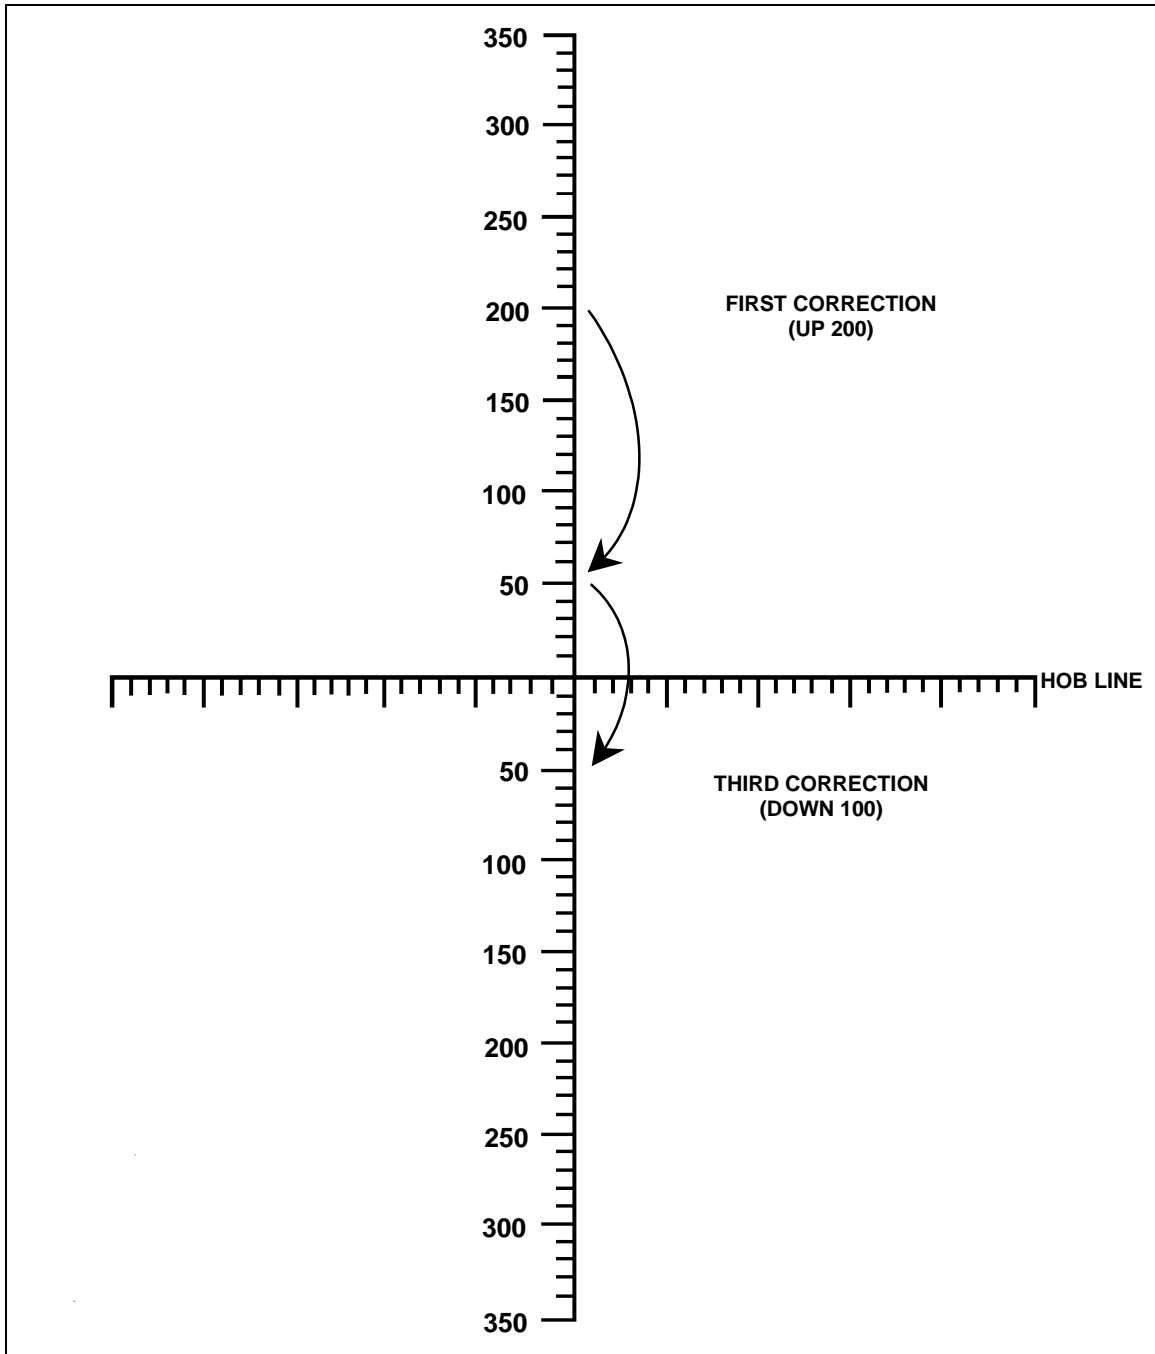
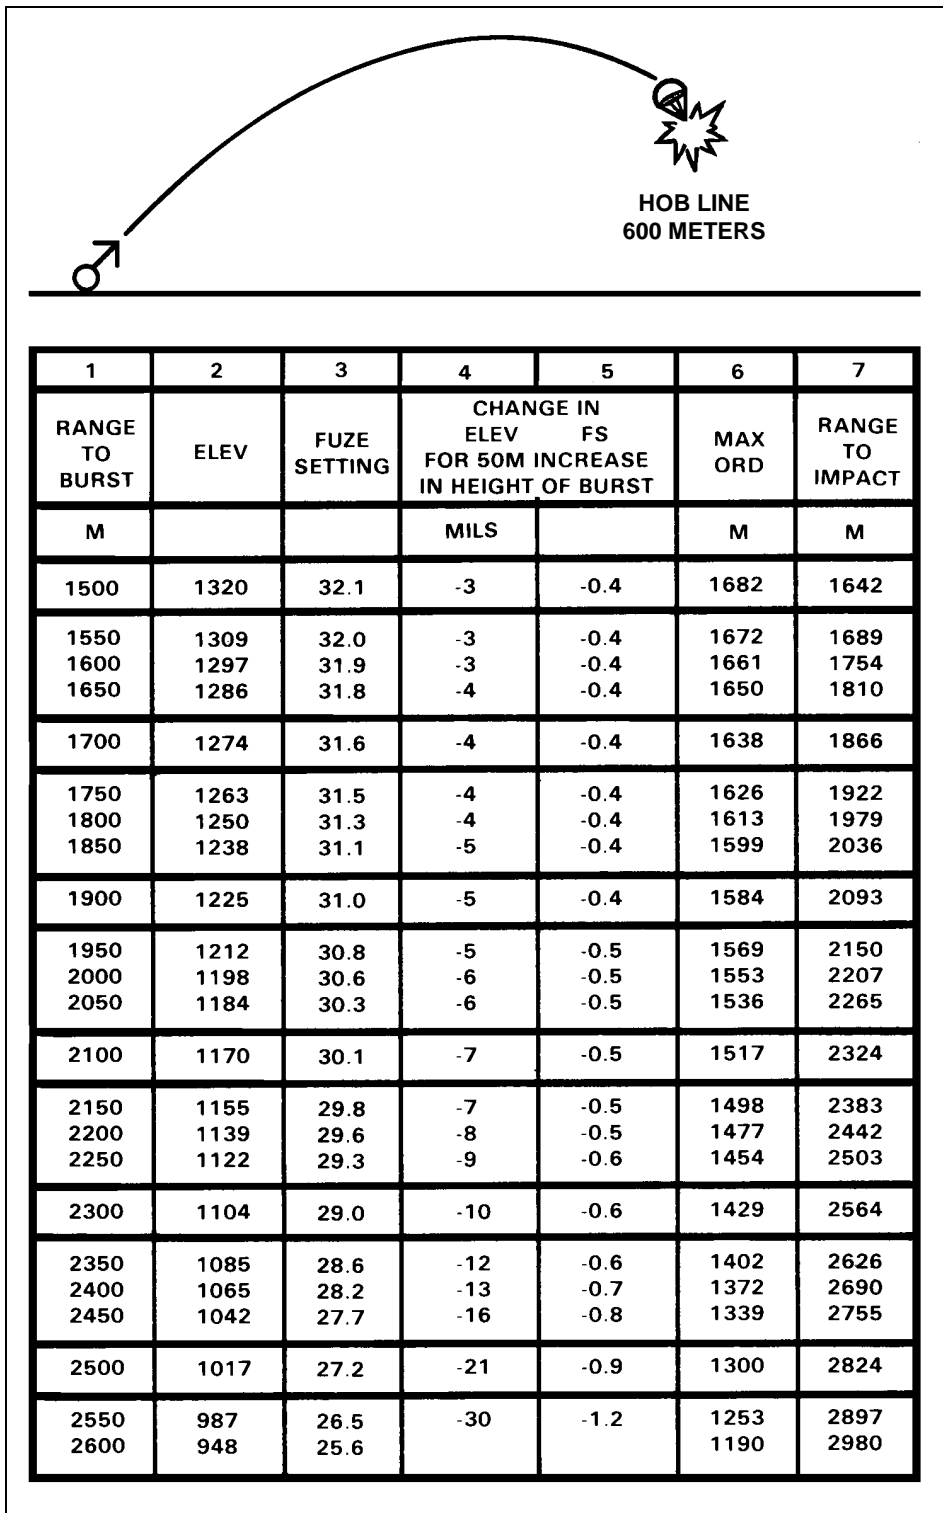

Figure 13-10. Height of burst corrections.
Figure 13-11. Height of burst line 81-mm.
b. **Corrections.** The ranges in the firing tables are in 50-meter increments. (Rule: Always round up, such as range 2,525 meters = 2,550 meters, to enter Part II of the firing tables.) Corrections to the HOB are obtained in columns 4 and 5. These corrections are used to move the round up or down in relation to the HOB line (Figure 13-10 and Figure 13-11, page 13-16).